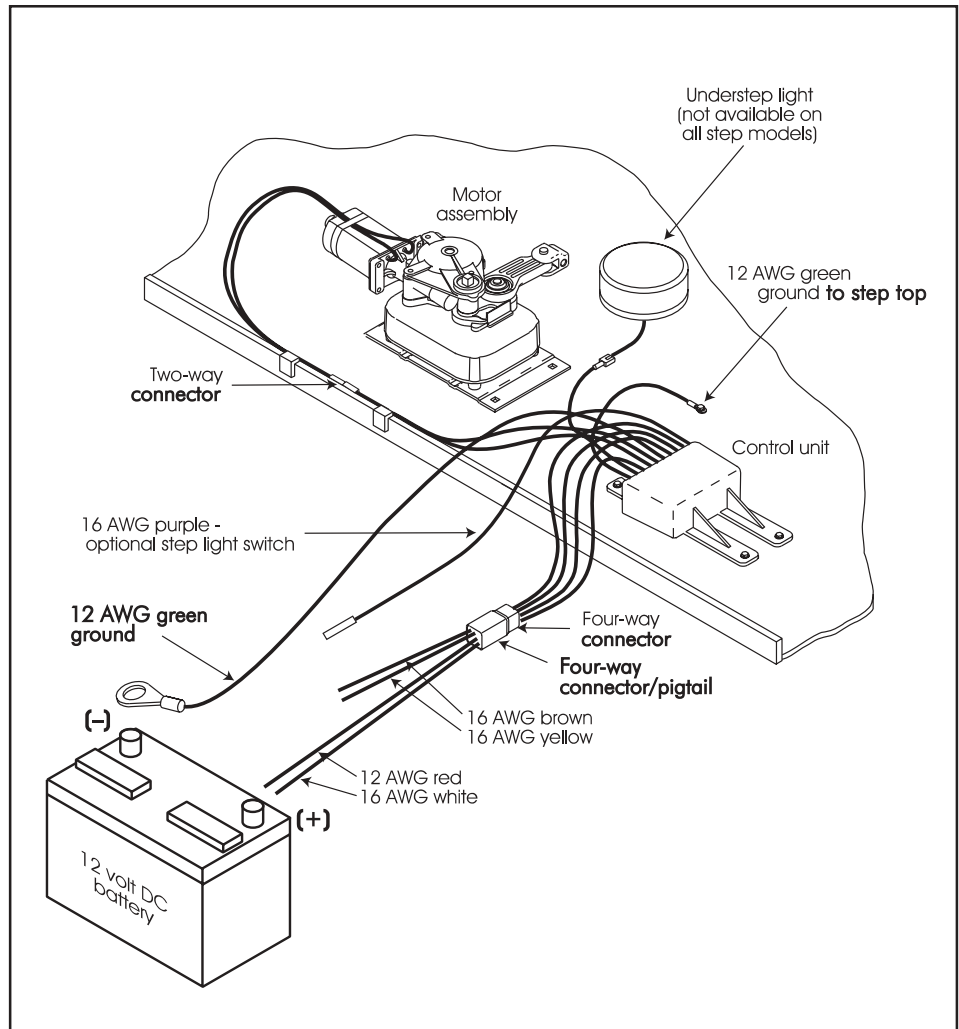

Figure 1 - Extending the step for installation
2. Connect the four-way connector from the control unit with the four-way connector/pigtail that has been included with the step. Figure 1.